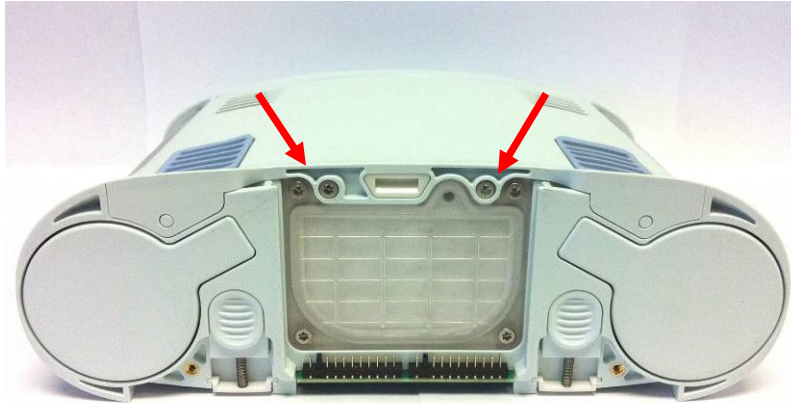

Figure 2: Location of screws
8. Replace the two screws that connect the back housing to the chassis and the two screws that connect the front housing to the chassis (Figures 2 and 4). Tighten screws to 6 in-lbs.
2. Place the device on its back side and remove the two screws that secure the front housing to the bottom of the chassis (Figure 2).